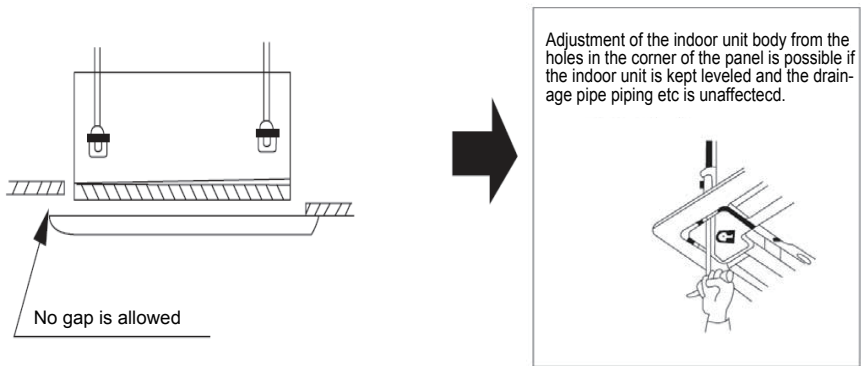

Fig.11.15
(2). If gap is still left between the ceiling and the panel after screwing the screws, readjust the height of the indoor unit body (Refer to Fig.11.15).